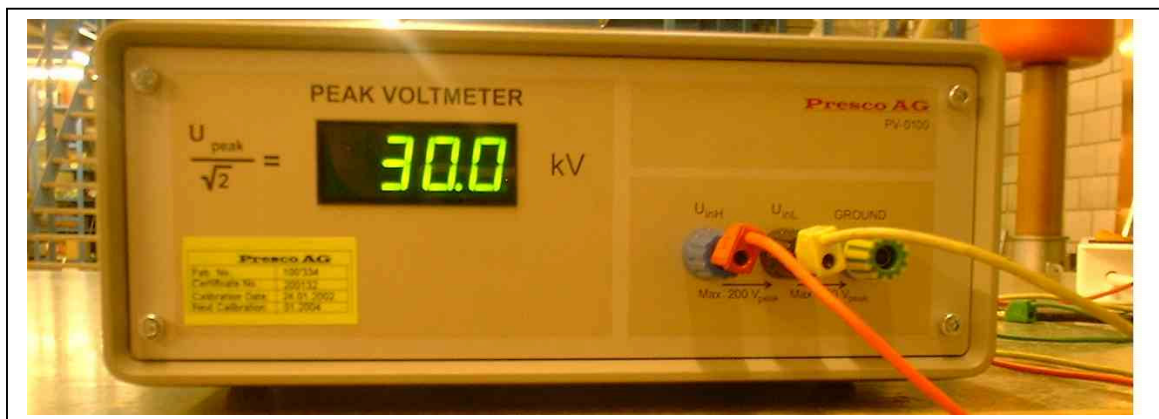

Fig.2.
4.1 The front of the instrument (Fig. 2)